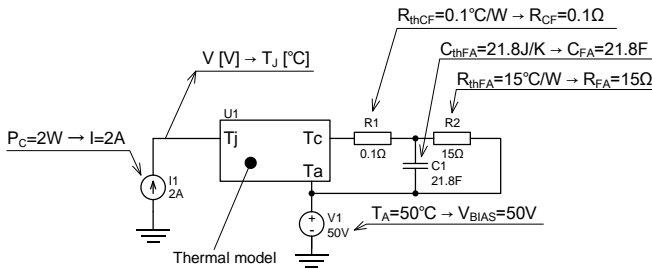

Figure 3. Example of simulation circuit
Next, the simulation circuit and the device configuration are shown in Figures 3 and 4, respectively. From Equations (1) and (2), a voltage with an RC time constant is generated in the Tj pin by applying the power consumption PD of the device to the Tj pin as a current I and applying the ambient temperature TA to the Ta pin as a bias voltage VBIAS. This generated voltage represents the junction temperature. In addition, the resistance connected to the Tc pin is R1 that is thermal resistance between the case and the heat sink (RthCF) and R2 that is thermal resistance between the heat sink and the ambient temperature (RthFA). RthCF includes the thermal resistance of the thermal interface material (TIM) and the contact thermal resistance. C1 is the heat capacity of the heat sink. R2 and C1 comprise the heat sink.